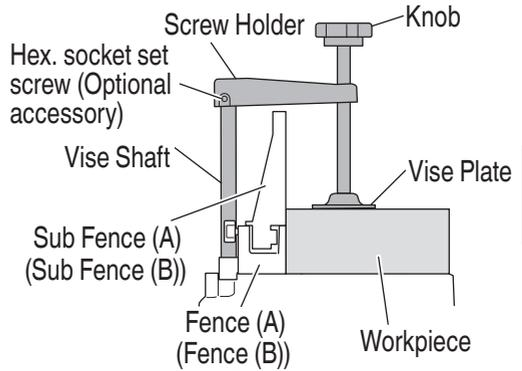

Fig. 11
2. Using the Vise Assembly (Standard accessory) (Fig. 11)